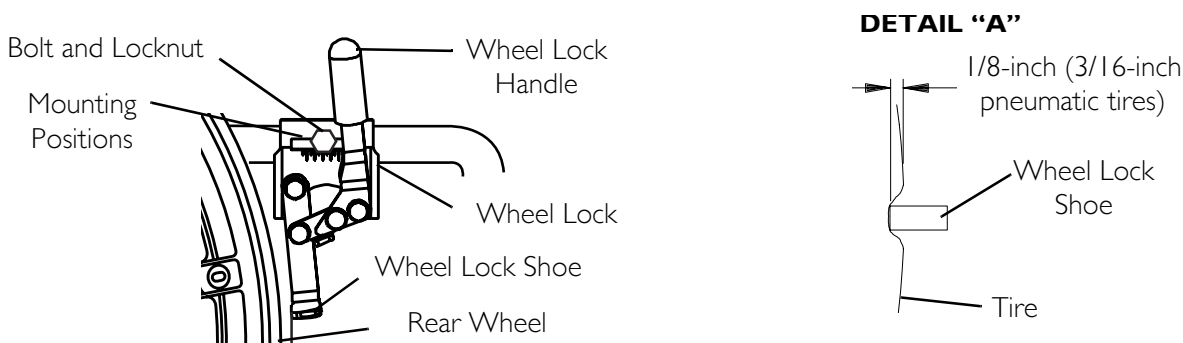

FIGURE 9.5 Adjusting Patient Operated Wheel Locks
NOTE: For this procedure, refer to FIGURE 9.5.
6. Measure the distance the wheel lock is embedded into the tire as shown in DETAIL "A" of FIGURE 9.5.